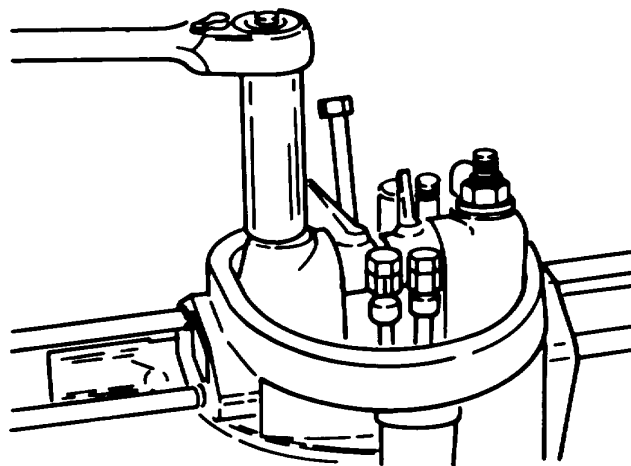

Figure A-60. Rocker Arms
- (1) Torque the cylinder head, using a 13mm deep well socket, to the torque specified. After torquing, tighten down the nuts holding the push rod tube retaining spring and adjust the valves. (Figure A-60.)